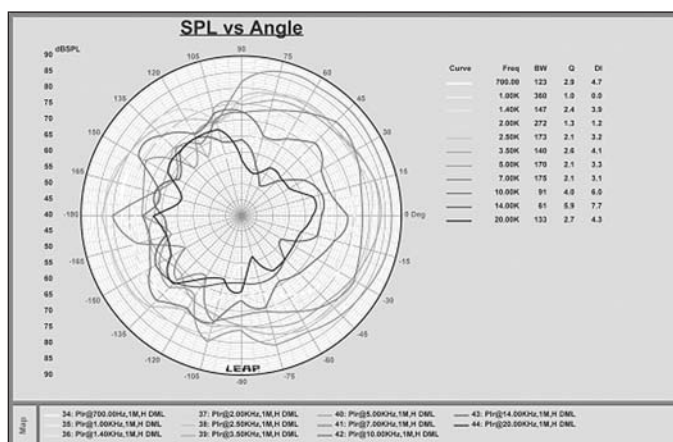

FIGURE 8: Horizontal polar response.
Figures 8 and 9 display the 360° polar response curves for the horizontal and vertical orientations of the DIY DML. The curves span from 700Hz to 20kHz. Generally, you can observe omnidirectional behavior between 1kHz and 7kHz for both the horizontal and vertical polar responses. You can see for both horizontal and vertical polar responses that omnidirectional behavior does not hold true at frequency extremes. **Figures 10A and 10B** are plots of the horizontal and vertical directivity index (DI) and is another method to view the polar data in **Figs. 8 and 9**.